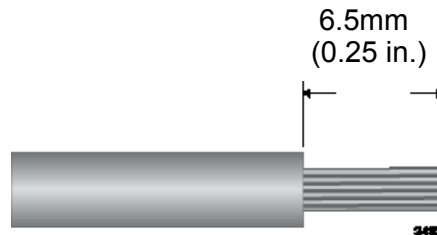

Figure 39. Stripping an Alarm Wire
1. Strip 6.5mm (0.25 in.) of insulation from the ends of the wires with a wire insulator stripper. Refer to Figure 39.